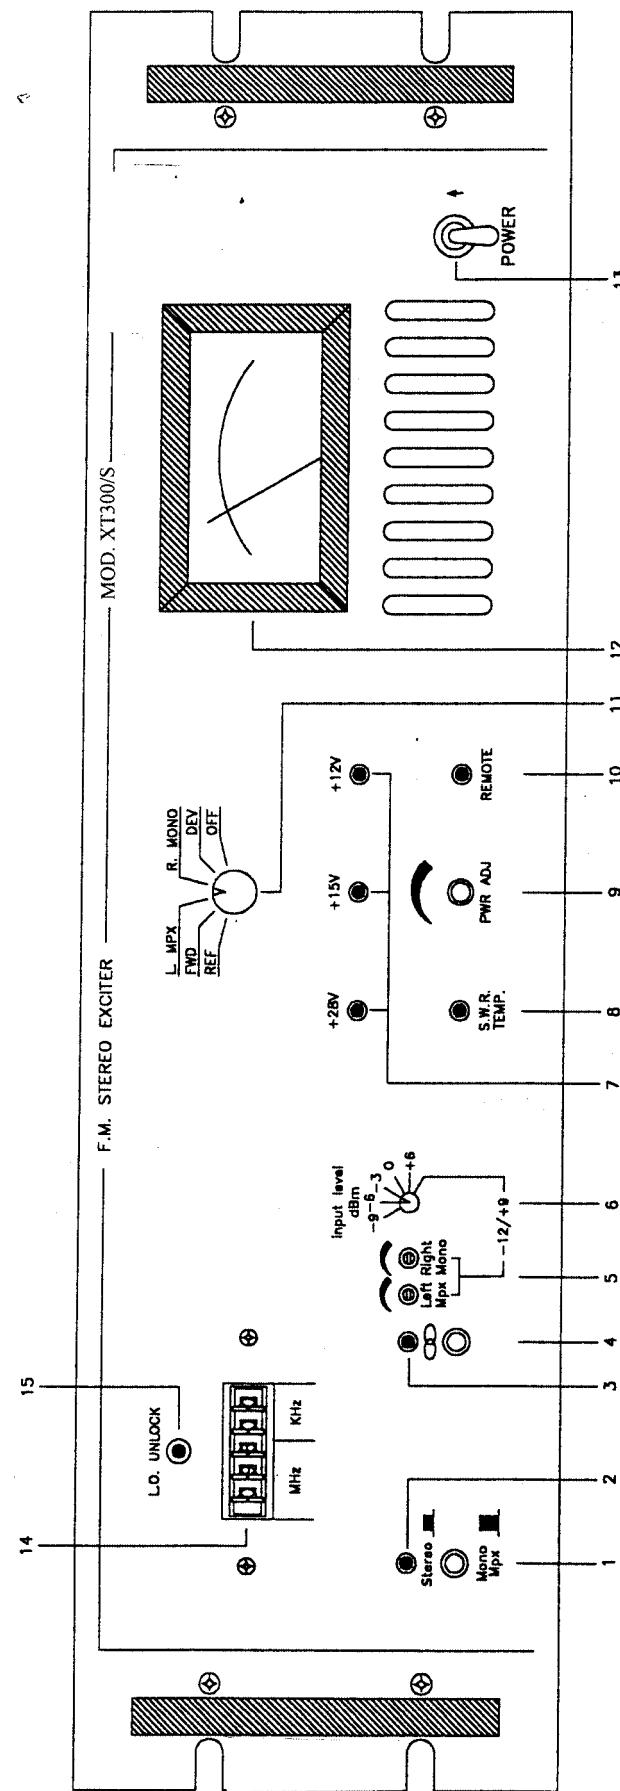
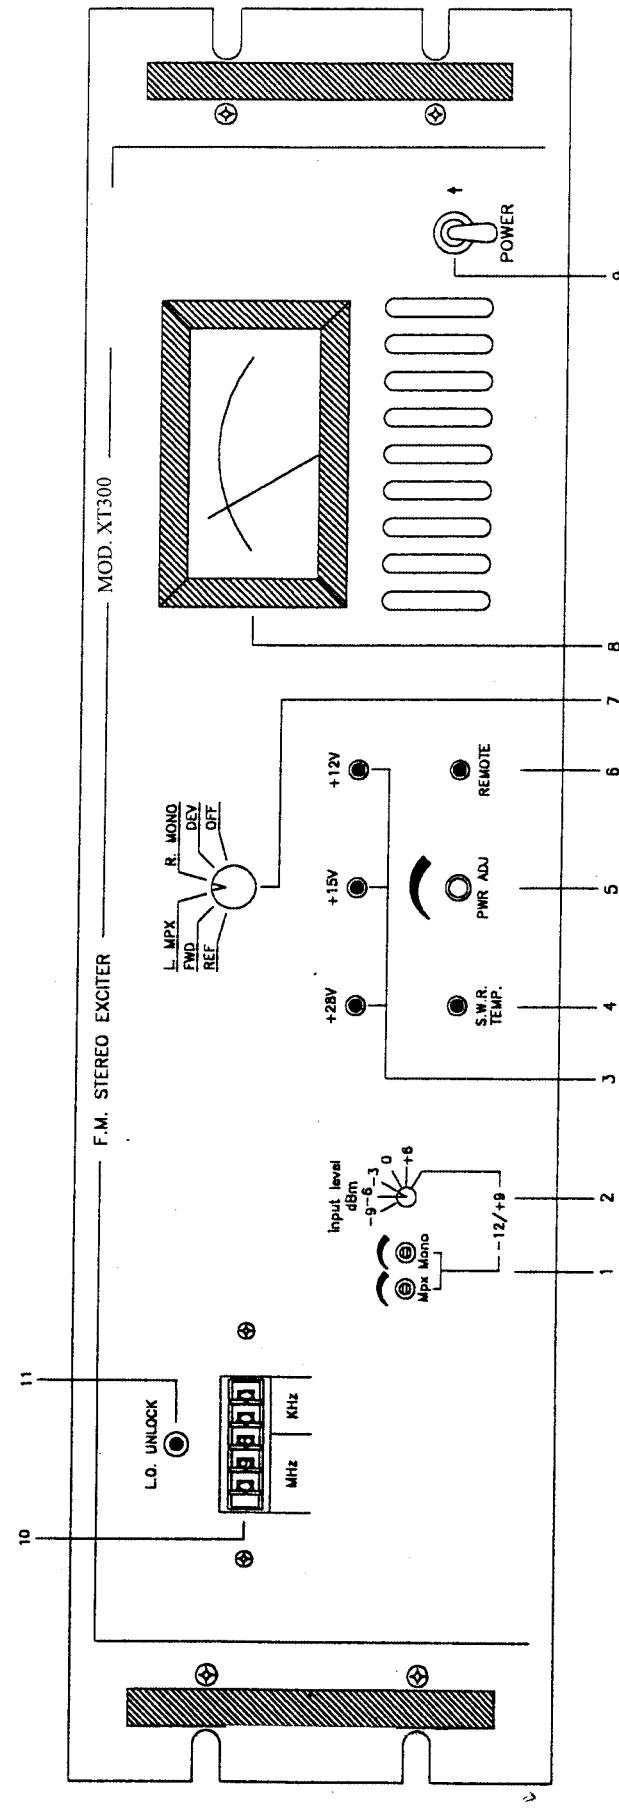

FIG. 1A
FIG. 1B
## FRONT PANEL STEREO VERSION VEIW DESCRIPTION (FIG. 1A)
#### FRONT PANEL MONO/MPX VERSION VIEW DESCRIPTION (FIG.1B)
- 2) Now ensure that the PWR ADJ control (Fig. 1A Item 9 or Fig. 1B Item 5) is rotated fully counterclockwise, using a small screwdriver (the pot is a ten turn pot so care should be taken to verify the minimum position). Units are normally shipped with this control at minimum.
- 5) Switch the unit's ON/OFF switch (Fig. 1A Item 13 or Fig. 1B Item 9) to the OFF position.
- 7) Switch the power switch (Fig. 1A Item 13 or Fig 1B Item 9) to the ON position and check that the three green internal voltage LEDs, (Fig. 1A Item 7 or Fig. 1B Item 3) and the red unlock LED (Fig. 1A Item 15 or Fig. 1B Item 11) are all on. Select the desired operating frequency using the corresponding selector. The red UNLOCK LED should switch off within 30 seconds, indicating that the oscillator has locked onto the operating frequency. The frequency selector comprises five figures of which three to the left of the decimal point represent (from left to right) hundreds MHz, tens MHz, and MHz. The two figures to the right of the decimal point represent (from left to right) hundreds of KHz and tens of KHz.